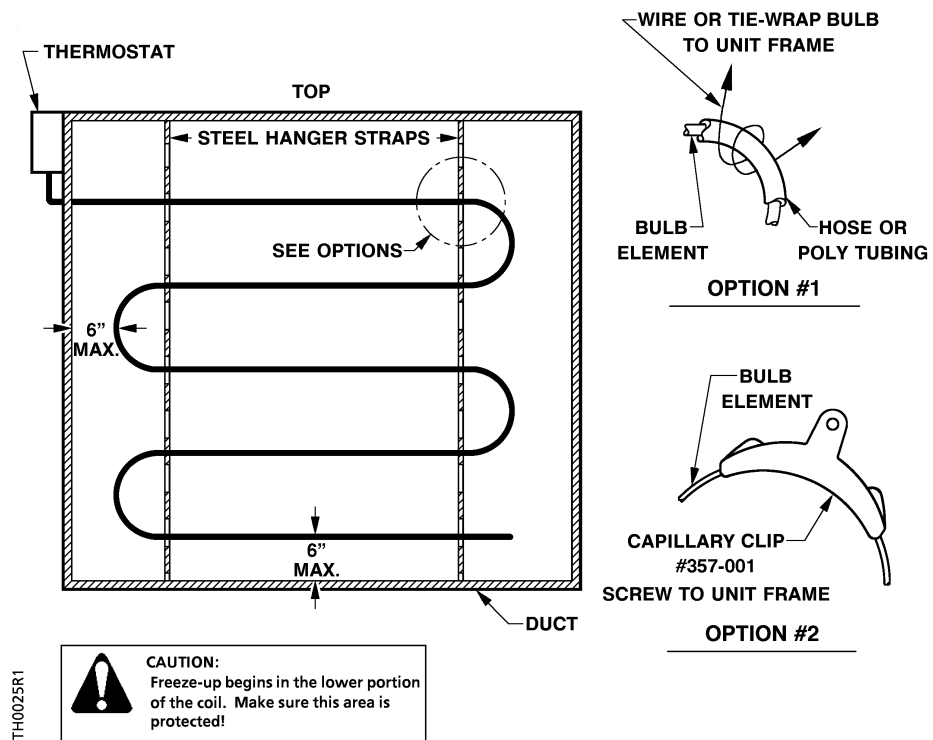

Figure 1. Typical Mounting in Walk-in Duct.
(*Figure 1*)
6. Mount the bulb in a horizontal serpentine manner. Attaching the bulb to the strap as shown in the detail in *Figure 1*.